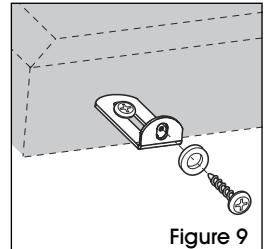

Figure 9
- Hang board and insert 1/4" screw and washer through each L-bracket and into pre-drilled hole in frame. Tighten firmly. (See Figure 9)